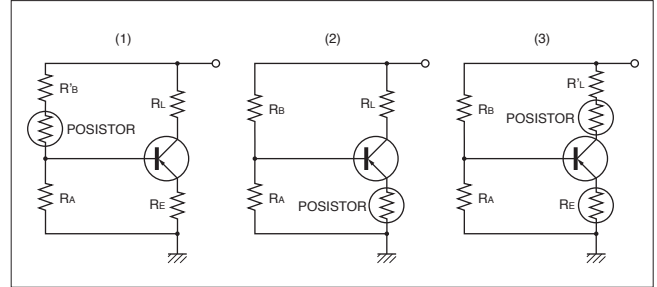

Fig. 9 Temperature compensation and protection of transistor
Fig. 9(1) shows a basic circuit for temperature compensation. In biasing the transistor, the resistance of POSISTOR is used. If the transistor overheats, the POSISTOR will heat up as well. As the POSISTOR passes the C_p , it will go high resistance and unbiased the circuit, and turning off the transistor. In case of Fig. 9(2) and 9(3), it also can be used as an over heat sensor as well.